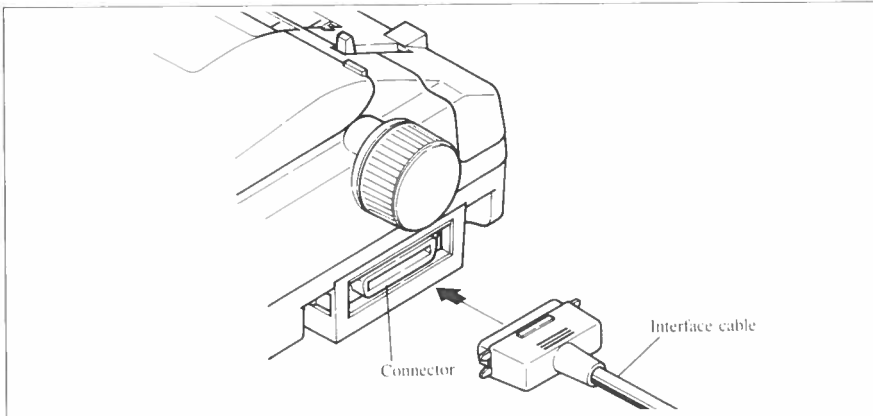

Figure 2-9. Connect the interface cable.
2. Plug the cable's Centronics connector into the socket on the side of the printer as shown in Figure 2-9.